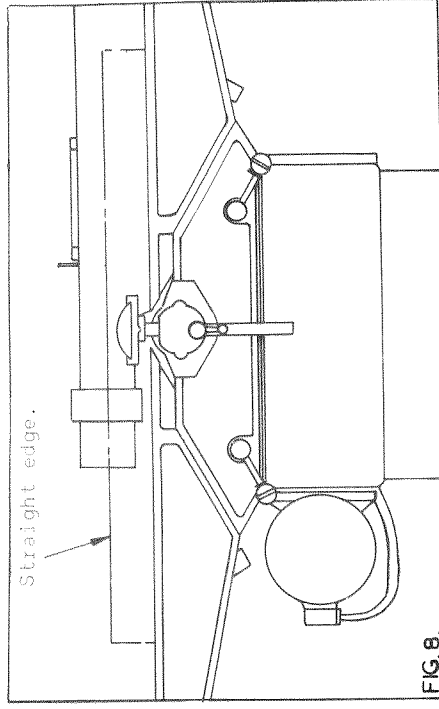

FIG. 8.
6. To check the setting of the knives raise the back table to its top position i.e. the zero mark on the rule or 1/16" above the outer surface of the cutterblock. Place a straight edge on the table as shown in Fig. 8 and rotate the cutterblock by hand until the knife just touches the straight edge. Repeat this check in various positions over the width of the table to ensure the knife is parallel. Repeat this procedure for all knives.